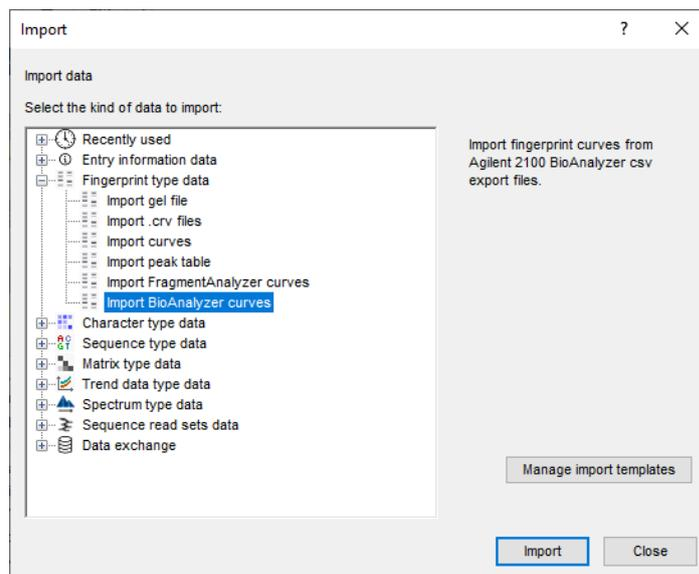

Figure 7: The *Import* dialog box.
1. Select **File > Import...** (📁, **Ctrl+I**) to call the *Import* dialog box (see Figure 7).